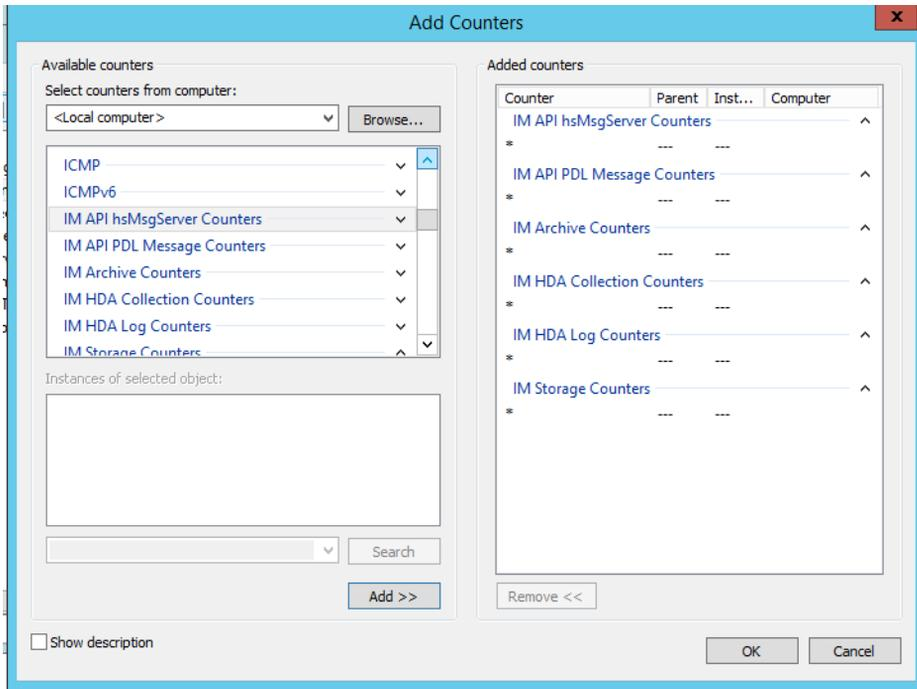

Figure 81. Adding all IM Counters
3. Add all the required counters to the current Performance Monitor. In Figure 81, there is an example of adding all the IM counters.